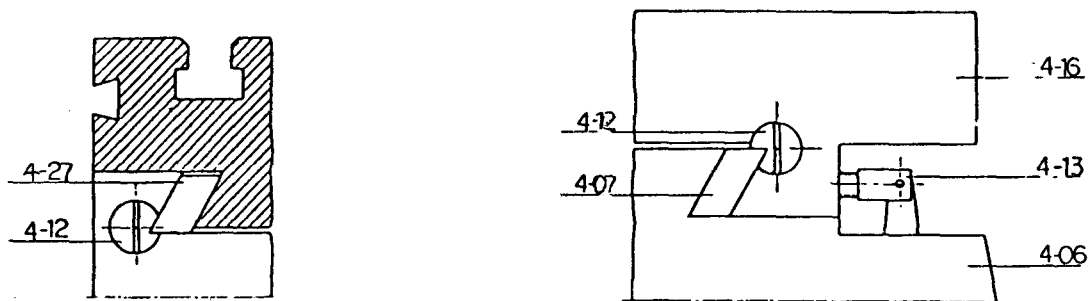

Fig. 3
- (1) Your RF-15/20/30 is equipped with full length tapered sliding plate (4-07, 4-27) to adjust for excess slack in fore and aft, left and right table travel.
- (2) Tighten the sliding plate bolt (4-12) clockwise with a big screw driver for excess slack.
- (3) Release the sliding plate bolt a little counterclockwise if too tight.
- (4) To adjust left and right travel, adjust the sliding plate bolt until feel a slight drag when turning the table (Fig. 3).
- (5) To adjust fore and aft travel, adjust the sliding plate bolt as shown in Fig. 3.